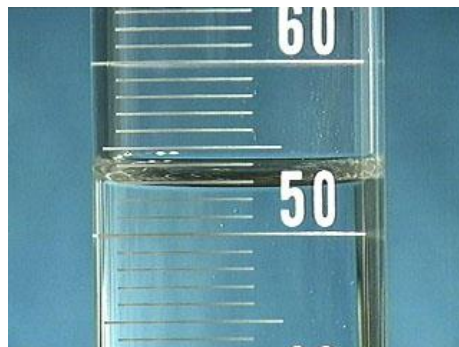

Figure 5 – a 100 mL graduated cylinder
1. What is the smallest scale increment for the 100 mL graduated cylinder shown in figure 5?
2. What is the volume of the liquid in the graduated cylinder in figure 5?